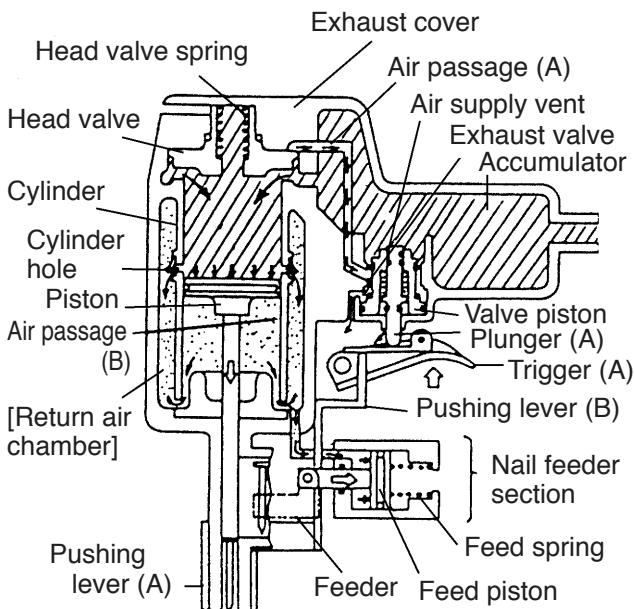

Fig. 7 During nailing (I)
(2) During nailing (I) (See Fig. 7.)